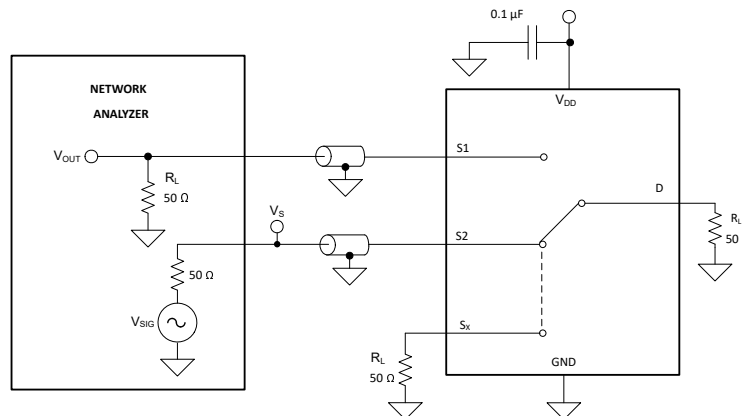

**Figure 6-9. Off Isolation Measurement Setup**
Off isolation is defined as the ratio of the signal at the drain pin (D) of the device when a signal is applied to the source pin (Sx) of an off-channel. Figure 6-9 shows the setup used to measure, and the equation to compute off isolation.